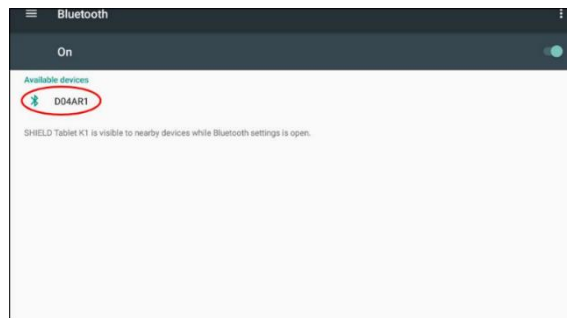

FIG. 8.3: Unpaired devices list that is displayed when the search button is selected (red circle). In this case the Due probe (D04AR1).
- Press the search button to get a list of devices that can be connected to the mobile device. A list of unpaired devices is displayed (Figure 8.3). See Section 8.9 (Nomenclature of Probes) for the DuePro naming convention;